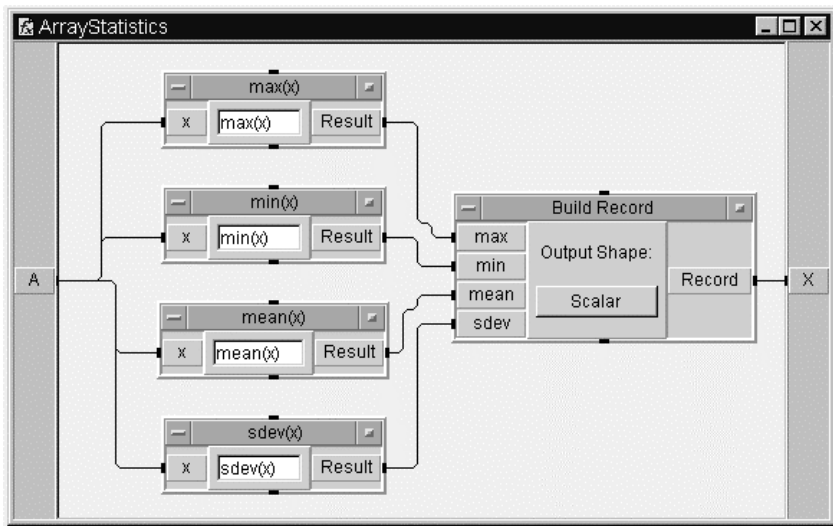

Figure 11.5. The ArrayStatistics UserFunction after editing
14. Connect the Build Record output to the X output pin on the User Function editing window. See Figure 11.5.